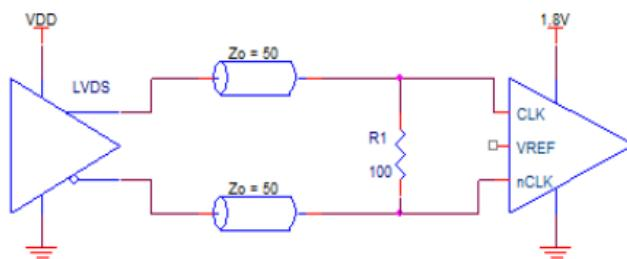
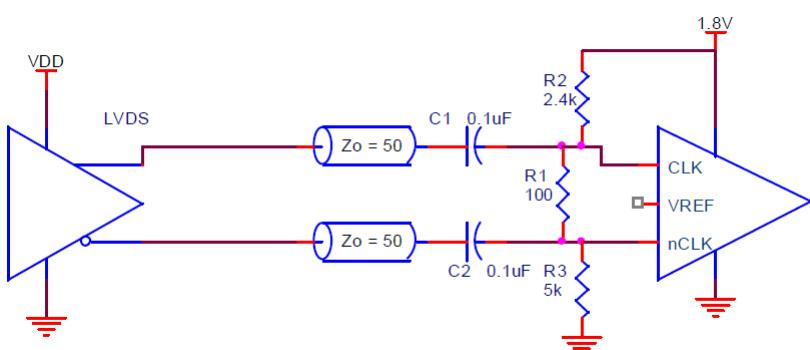
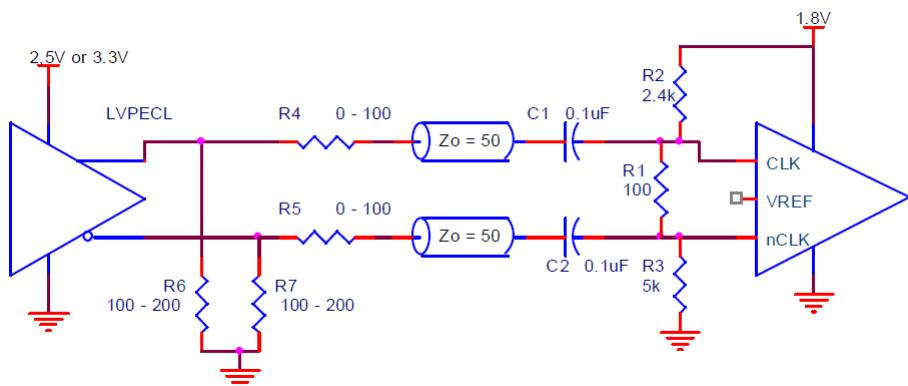

Figure 3. Differential Input Driven by an LVDS Driver – DC Coupling
Figure 4. Differential Input Driven by an LVDS Driver – AC Coupling
Figure 5. Differential Input Driven by an LVPECL Driver – AC Coupling
5. VREF[A:B] specification is applicable to the AC-coupled input interfaces shown in Figure 4 and Figure 5.
The CLK /nCLK accepts LVDS, LVPECL and other differential signals. The differential input signal must meet both the V_{PP} and V_{CMR} input requirements. Figure 3 to Figure 5 show interface examples for the CLK /nCLK input driven by the most common driver types. The input interfaces suggested here are examples only. If the driver is from another vendor, use their termination recommendation. Please consult with the vendor of the driver component to confirm the driver termination requirements.